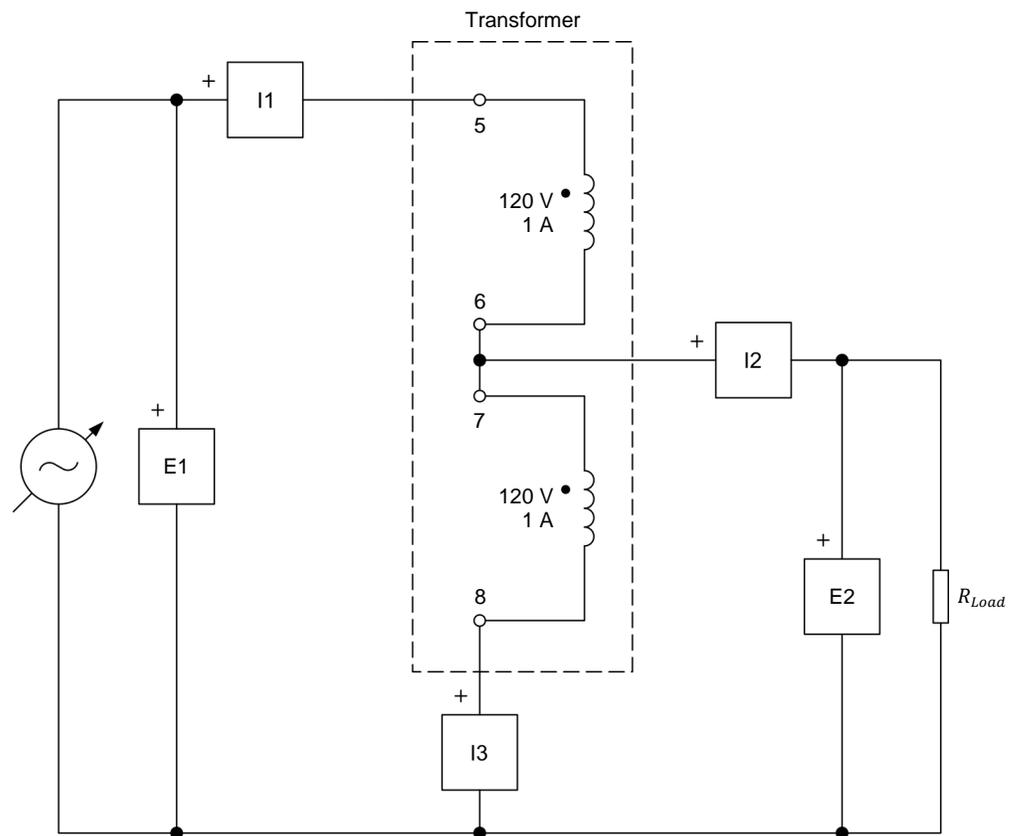
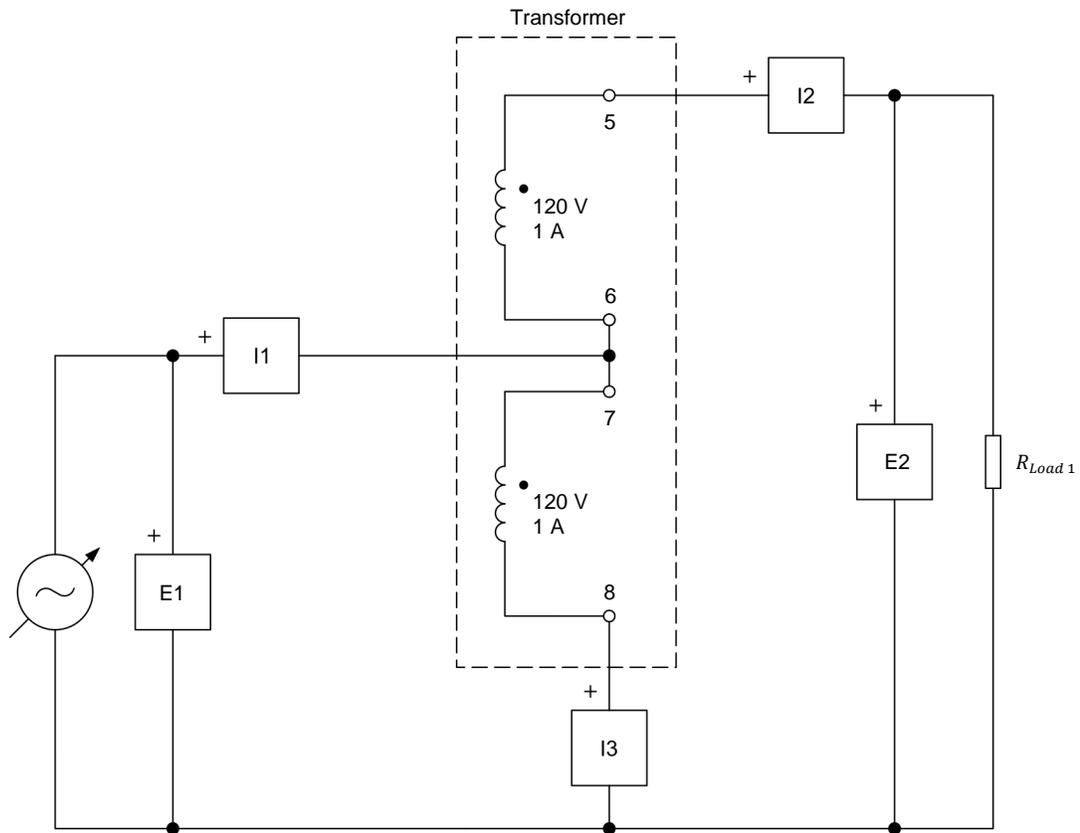

Figure 41. Step-down autotransformer connected to a resistive load.
Figure 42. Step-up autotransformer connected to a resistive load.
8. Connect the equipment as shown in Figure 41. In this circuit, the two 120 V - 1 A windings are connected in series-aiding configuration to form the single winding of the autotransformer.
19. Connect the equipment as shown in Figure 42.
28. Determine what would be the power rating of a conventional 120 V:120 V power transformer implemented with the same two 120 V - 1 A windings used to build the step-down and step-up autotransformers in Figure 41 and Figure 42, respectively.